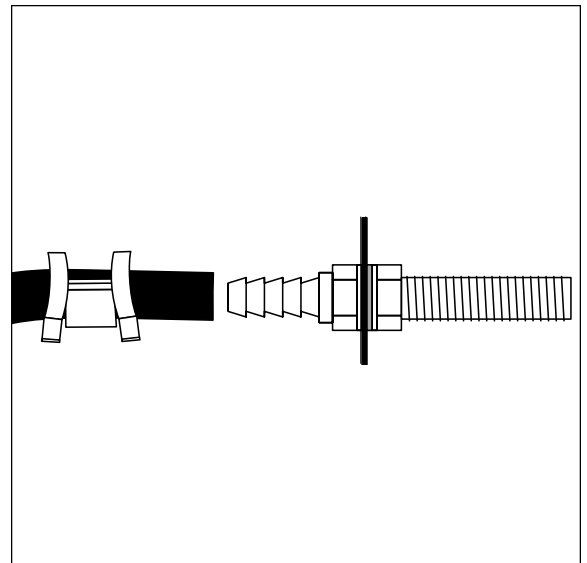

Figure 7
- m. Slide air line clamp over the air line. Push air line onto fitting covering all barbs, with pliers slide the air line clamp forward until it fully covers the barbed section (Figure 7).